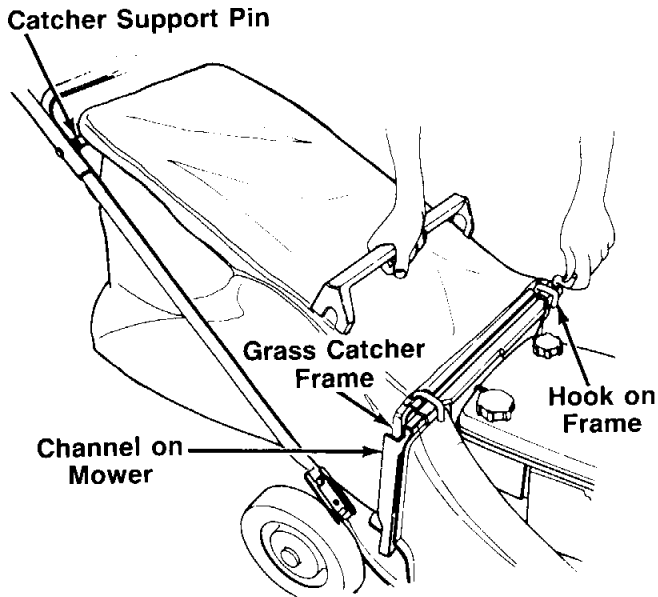

FIGURE 18.
1. Hold the chute door on the catcher panel open as shown in figure 18.
2. Slide the frame of the grass catcher down into the channels on each side of the mower. The hooks on the frame go over the panel on the discharge chute. Make certain the rear of the grass catcher frame is resting on the catcher support pins. See figure 18.